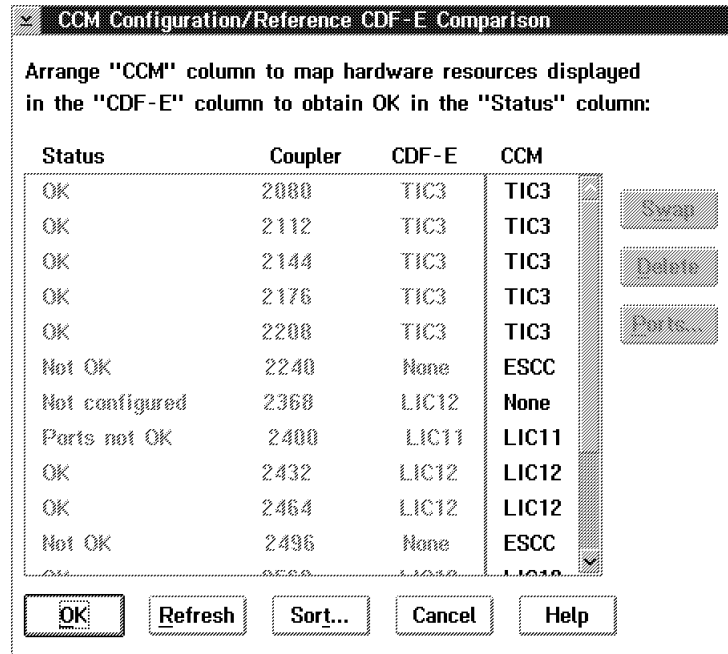

Figure 3-4. CCM Configuration/Reference CDF-E Comparison Window
Main window **Options** → **Reference CDF-E** → **Compare with CCM configuration** → **CCM Configuration/Reference CDF-E Comparison** window (see Figure 3-4)
By selecting a LIC11 in the CCM column (see Figure 3-4) and then clicking on the **Ports** button, you can see the results of the port comparison in the **CCM Configuration/Reference CDF-E Ports Comparison** window.
The ports can be sorted, swapped, and deleted to resolve discrepancies in the same way as the couplers can be in Figure 3-4.
**Step 1.** When the coupler or port list is displayed (see Figure 3-4 on page 3-9), press **Sort**